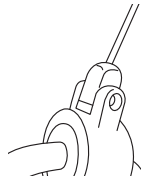

Fig. 2
- Place the hose clamp around the outside of the secured hose sleeve, ensuring that the top part of the clamp is facing up and in the direction of the reel. (fig. 2)